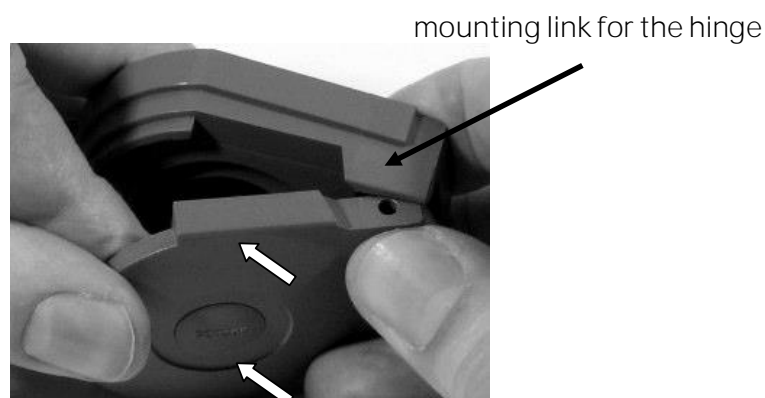

Figure 15 Docking Station Door insertion
2. Open the Docking Station Door (to an angle of approximately 120° (see *Figure 15 Docking Station Door insertion*)).